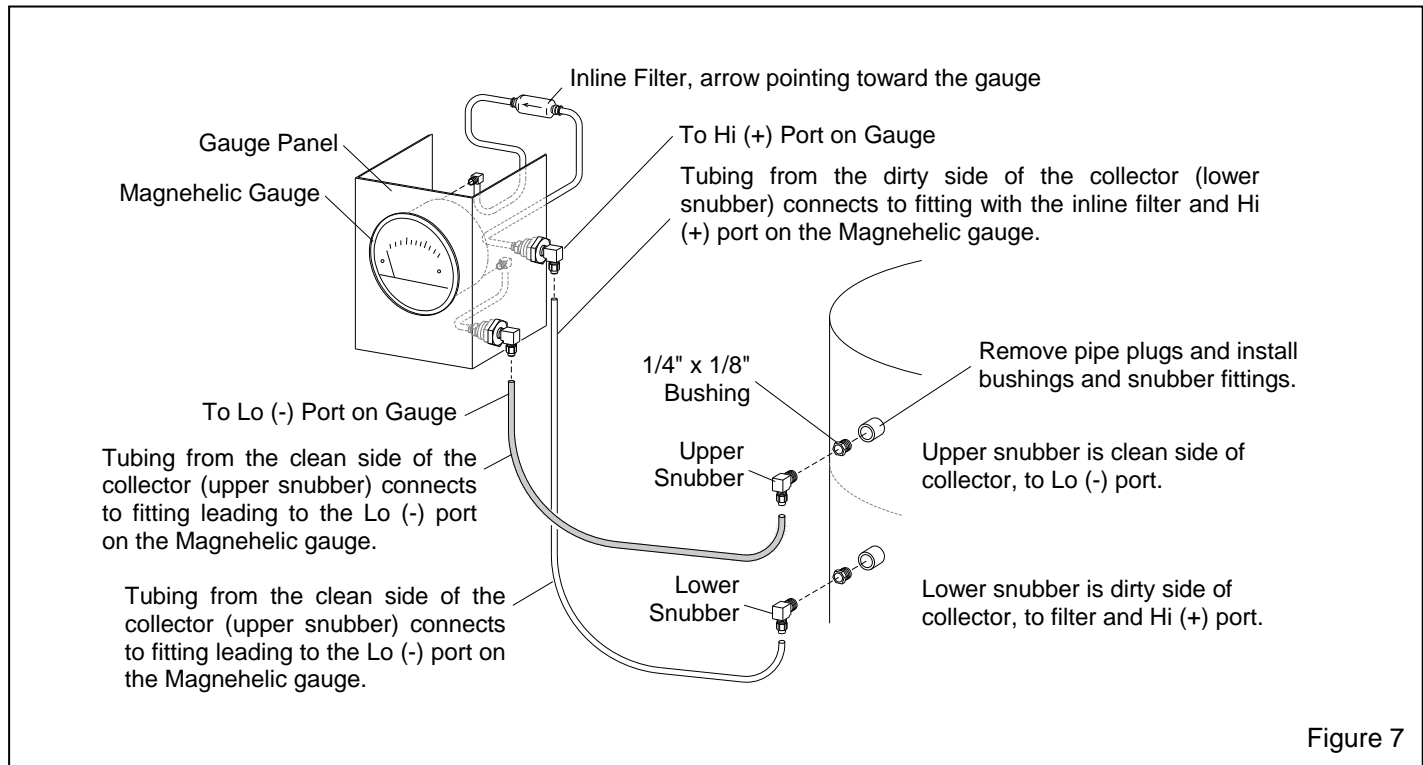

Figure 7
and tubing are loose. Mount the panel on the cabinet or power module at a location where it can be easily monitored. There is not enough room on a Pulsar 55se to mount it at the front of the cabinet, choose another convenient location. Note: A 20-foot length of tubing is included with the kit, allowing the panel to be mounted within ten feet of the dust collector connections, as shown in Figure 7.
**3.5.4** Remove 1/4" pipe plugs from the dust collector body, and install 1/4" x 1/8" bushings and snubber fittings as shown in Figure 7.